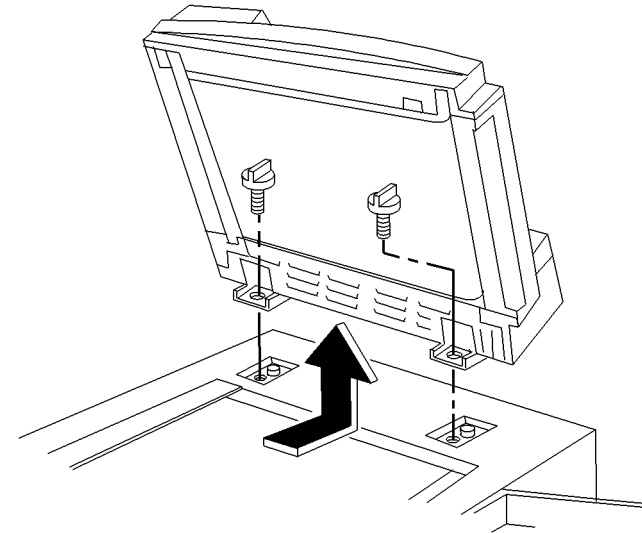

Figure 2 Removing DADF
2. Remove Screws (2) and remove DADF (Figure 2).